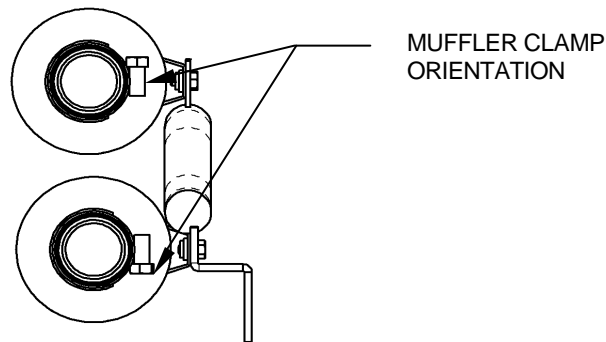

FIGURE 3
4. Install the supplied muffler clamps on the front and rear muffler (refer to Fig. 3). Take muffler assembly (with mount) and slide onto stock headpipes. Line up bottom hole of mounting bracket with the threaded mounting hole on frame (refer to Fig. 1) and install supplied M10 fine thread bolt and M10 spring washer, but do not tighten. **Note: make sure M10 bolt threads into frame prior to installation to avoid damage to threads.**
5. Rotate the muffler clamps as shown in figure 3. **DO NOT TIGHTEN.** The clamps should not be pushed back past the slots or the muffler will not tighten on the headpipe.